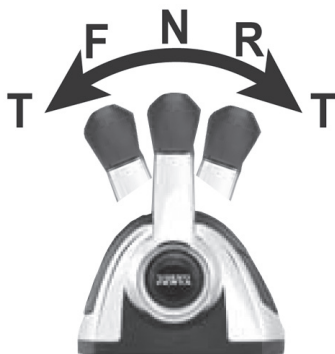

Figure F5: Control Lever Positions - Dual Binnacle
1. Move shift/throttle lever(s) to the neutral idle position. Placing the shift/throttle levers in the neutral detent position will engage neutral start switch and allow engine to start. The engine can not be started if the control lever is in any other position but NEUTRAL. See Figure F5.